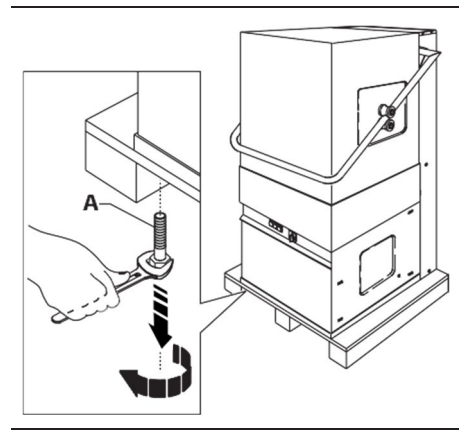

Fig. 3
2. Remove the two screws A which fix the dishwasher to the transport pallet (fig. 3)